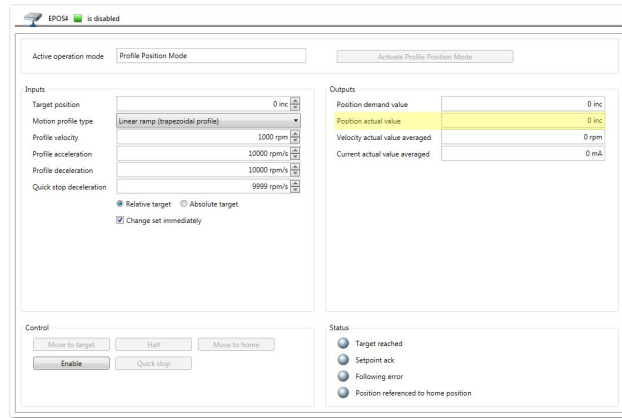

Figure 8-127 Adjustment of SSI commutation offset value | Check sense of rotation
c) The indication «Position actual value» (→Figure 8-127) must increase.